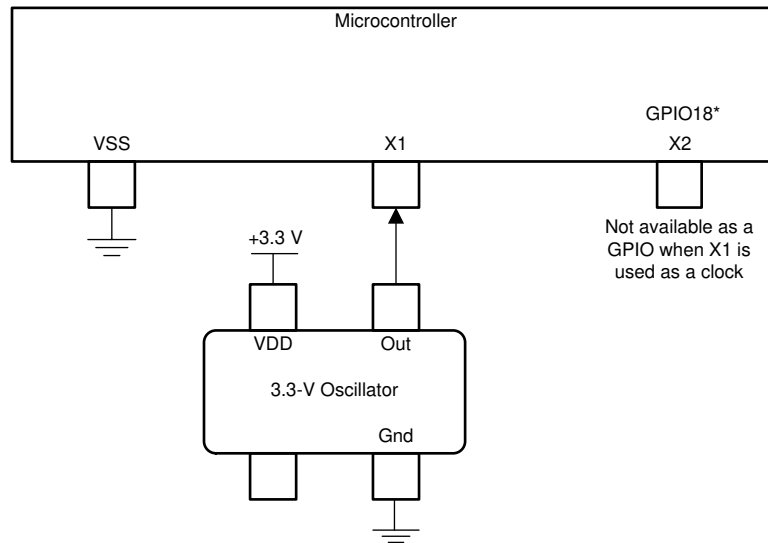

图 7-12. Single-ended 3.3-V External Clock
- A single-ended 3.3-V external clock. The clock signal should be connected to X1, as shown in 图 7-12, with the XTALCR.SE bit set to 1.